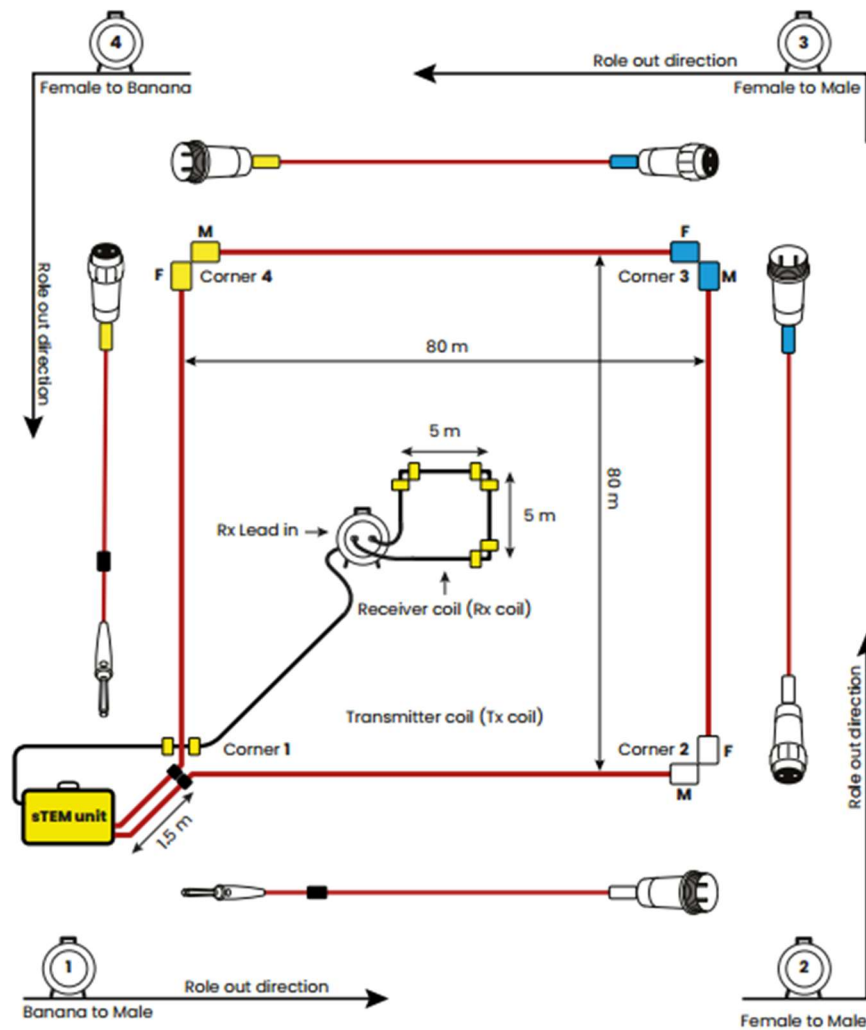

Figure 8. Example of sTEM system assembly with 80 x 80 m (262 x 262 ft) Tx coil and 5 x 5 m (16 x 16 ft) Rx coil.
The 80 x 80 m Tx coil comes in four cable drums. Make sure to identify the two cable drums with the additional 1.5 m (5 ft) Tx lead-in and use these cables for the 1st and 4th side of the Tx coil (Figure 8). Follow the colored connectors in the beginning and at the end of each cable, for easier layout.
- Locate the opposite diagonal Tx-corner and walk towards this while rolling out the entire Rx lead-in cable. The end point of the lead-in cable drum marks the first corner of the Rx coil (see Figure 5/Figure 8)
- Layout the Rx coil in a square as shown in Figure 5/ Figure 8 and connect it to the Rx lead-in cable drum (see Figure 9).
- In the home corner, connect the RX lead-in cable to the sTEM unit. The excess Rx lead-in cable should be placed as in Figure 5/ Figure 8, crossing the Tx-cable perpendicularly.